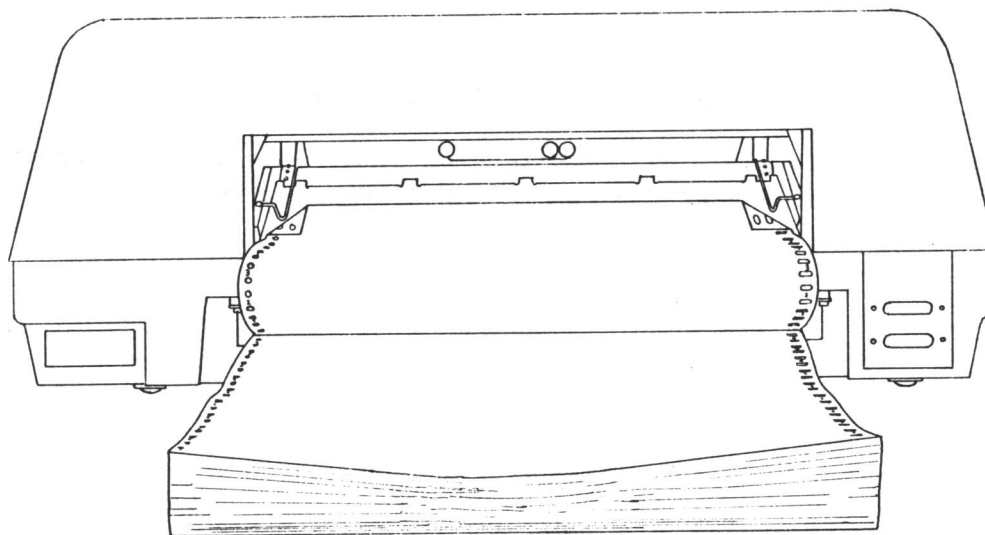

Figure 1-19
4. Feed the media through the back under the media guides (see Figure 1-19).